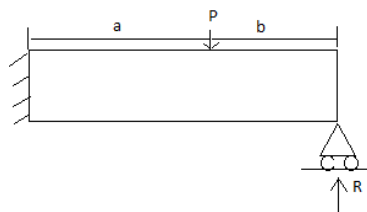

Fig.2
- 9 a) Explain the principle of virtual work? (3)
- b) State and prove Castiglianos's first theorem. (7)
- 10 a) Write the general expression for twisting moment for shafts of non-circular cross section incorporating warping function $\Psi(x,y)$. (3)
- b) What is meant by warping of non-circular shafts? Prove that St.Venants warping function is harmonic? (7)
- 11 a) Explain the minimum potential energy theorem? (2)
- b) Find the support reaction R in Fig.2 at the end of the cantilever beam using strain energy method. (Load acting is P at a distance of 'b' from the roller support). (8)